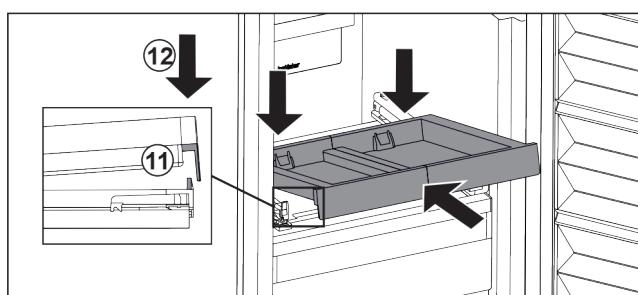

Fig. 104
- ▶ Slide in at an angle. Make sure that the stop is behind the lug on both sides. Fig. 104 (11)
- ▶ Lower the pull-out board at the front. Fig. 104 (12)